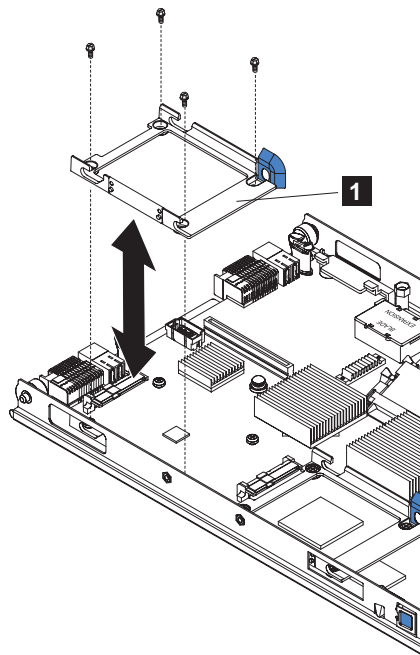

Figure 33. Removing the disk drive tray
6. Remove the four screws that secure the drive tray ( **1** in Figure 33) to the system board and remove the drive tray.